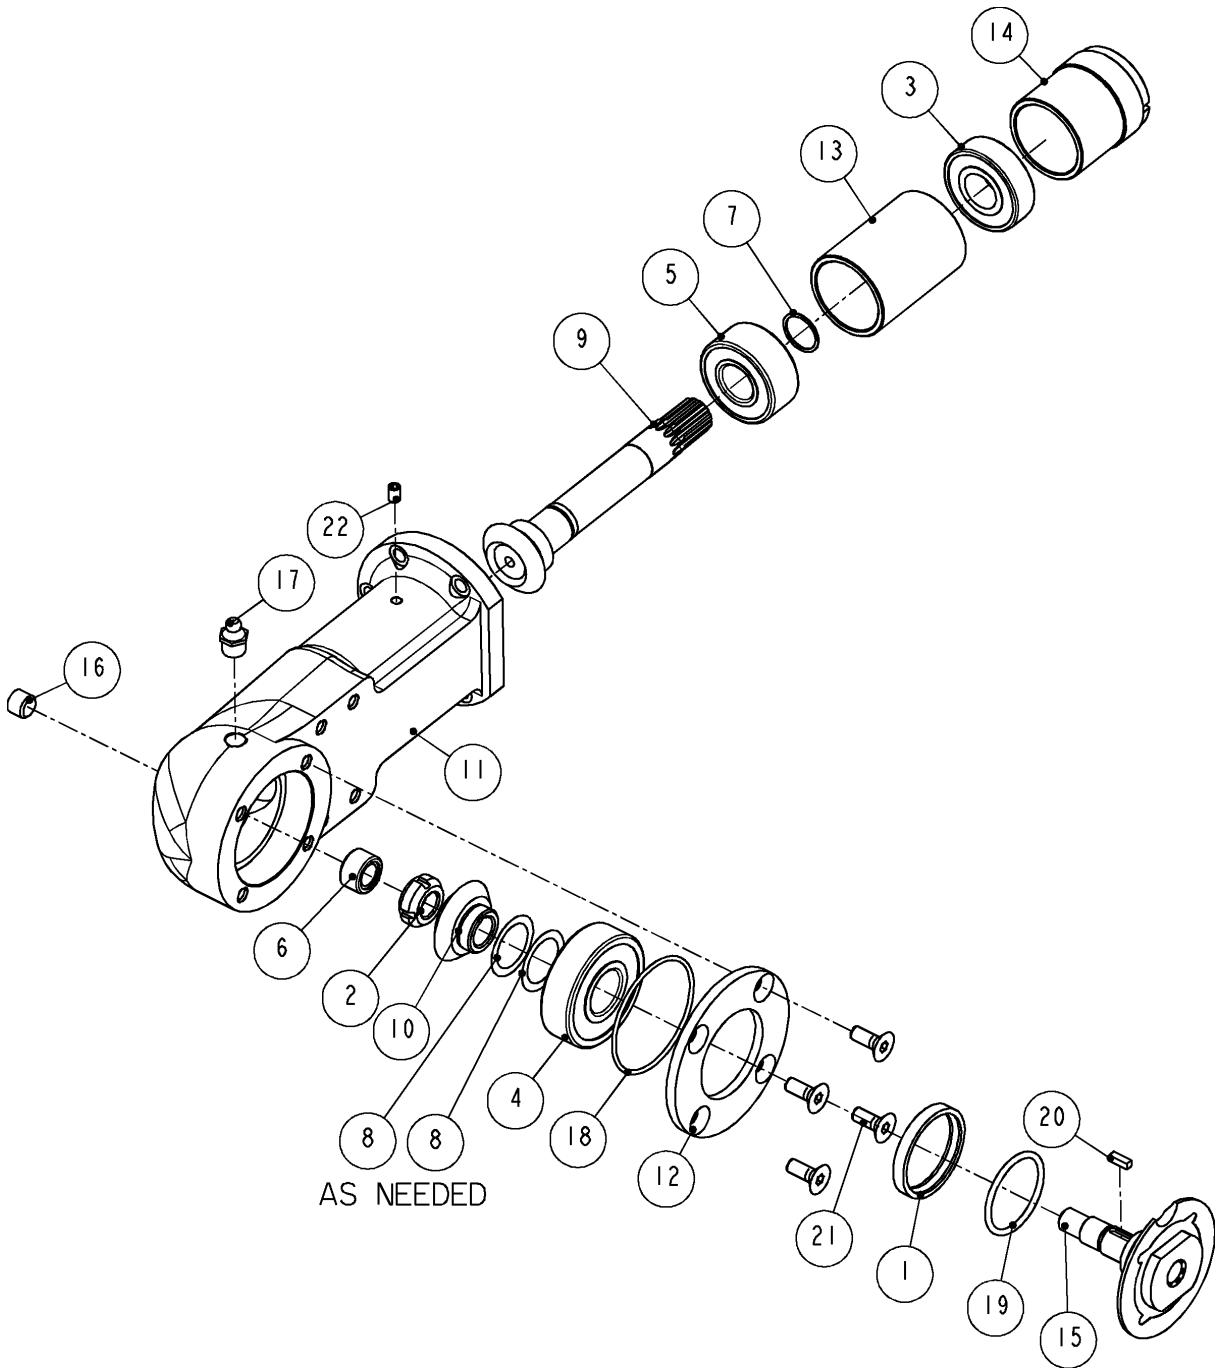

Figure 6 6622190: NOSE ASSEMBLY
3. REMOVE FOUR SCREWS (ITEM 21, FIG. 6)
4. REMOVE PLUG (ITEM 16, FIG. 6). WITH ACENTER PUNCH INSERTED THRU HOLE PLUGGED WITH PLUG, PRESS OUT MANDREL (ITEM 15, FIG. 6) AND ALL OTHER INTERNAL PARTS.
5. LOOSEN SCREW (ITEM 22, FIG. 6)
6. USING HOLDER TOOL (KM #4501850 – OPTIONAL), REMOVE RETAINER (ITEM 14, FIG. 6)
7. THRU BORE THAT HOUSES MANDREL, PUSH PINION (ITEM 9, FIG. 6) OUT BACK.
4. **FILL WITH GREASE (KENTMASTER GREASE – 7903070) AT FITTING (ITEM 17, FIG. 6) BEFORE USING TOOL**